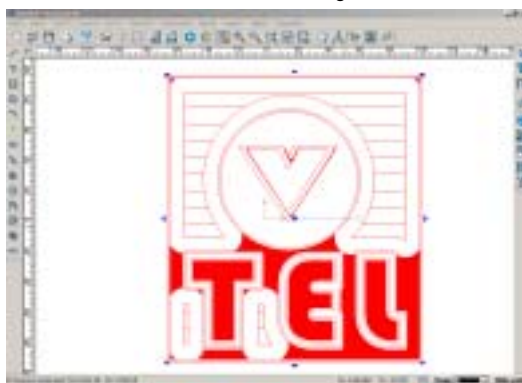

Fig. 10-50
3. Select two end mill tools with diameter of 3.175 and 22 respectively, total depth of 3mm, overlap of 90%, anticlockwise. Then the effect is shown in Fig. 10-50.